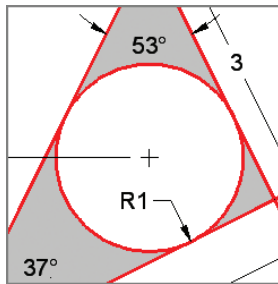

FIGURE 11.19
- Open the dimension menu in the Annotation panel, and select the Radius tool. Select the circle, and then click a point inside the circle to locate the radius value (see Figure 11.19).